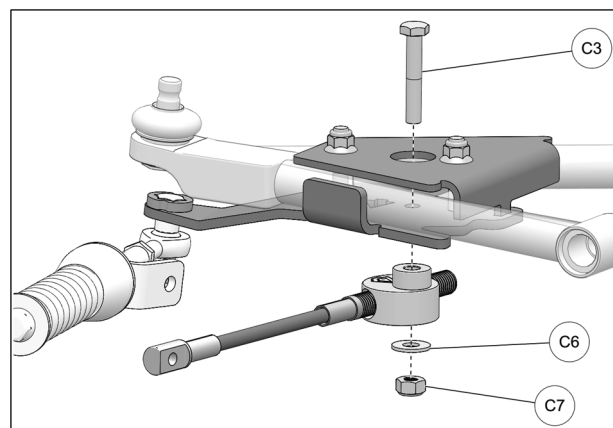

Fig. 24
12. Attach steering limiter cable assembly under anchor bracket using bolt (**C3**) inserted through bracket cover, washer (**C6**), and nut (**C7**). Tighten nut to 50 N•m [37 lb•ft]. Refer to Fig. 24